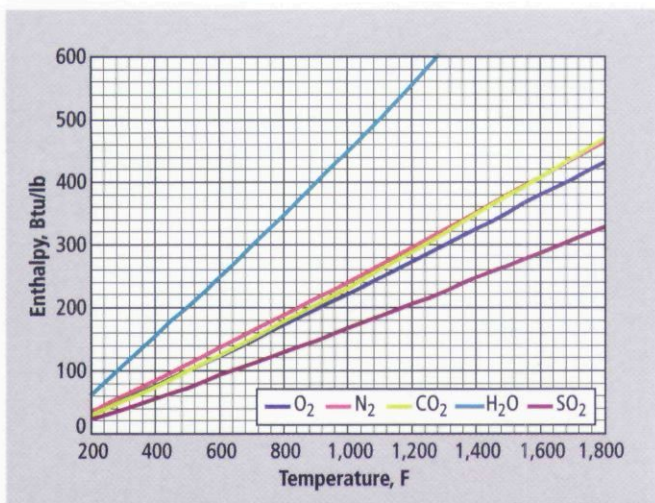

FIG. 2 Enthalpies of O2, N2, CO2, H2O and SO2.
**Heat losses.** Total heat losses are the sum of stack and radiation heat losses. The stack heat losses,  $Q_s$ /lb of fuel, are determined from a summation of the enthalpy of the flue gas components at the stack temperature,  $T_s$ . Fig. 2 is used to estimate the enthalpy of flue gas components/lb of fuel.